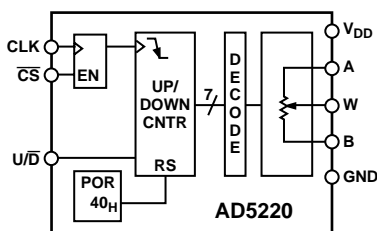

Figure 35. Block Diagram
The AD5220 contains a three-wire serial input interface. The three inputs are clock (CLK), \overline{CS} and UP/DOWN (U/\overline{D}). The negative-edge sensitive CLK input requires clean transitions to avoid clocking multiple pulses into the internal UP/DOWN counter register, see Figure 35. Standard logic families work well. If mechanical switches are used for product evaluation they should be debounced by a flip-flop or other suitable means. When \overline{CS} is taken active low the clock begins to increment or decrement the internal UP/DOWN counter dependent upon the state of the U/\overline{D} control pin. The UP/DOWN counter value (D) starts at 40_H at system power ON. Each new CLK pulse will increment the value of the internal counter by one LSB until the full scale value of 3F_H is reached as long as the U/\overline{D} pin is logic high. If the U/\overline{D} pin is taken to logic low the counter will count down stopping at code 00_H (zero-scale). Additional clock pulses on the CLK pin are ignored when the wiper is at either the 00_H position or the 3F_H position.